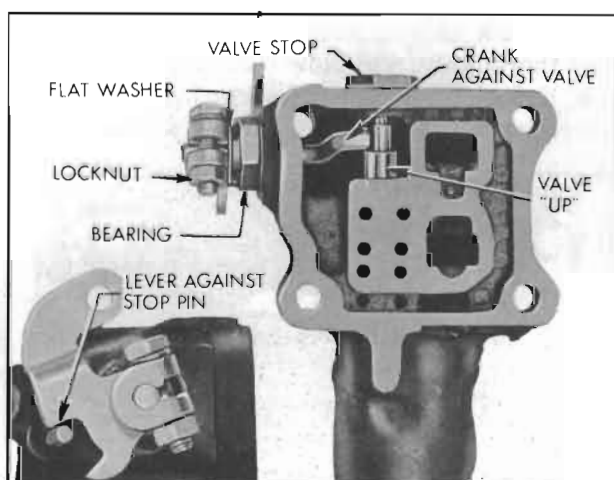

Figure 5-79—Valve Operating Lever Adjustment
12. Adjust operating lever on crank so that lever contacts its stop and the crank contacts the valve with valve in extreme upper position, then tighten the clamp bolt. See figure 5-79.